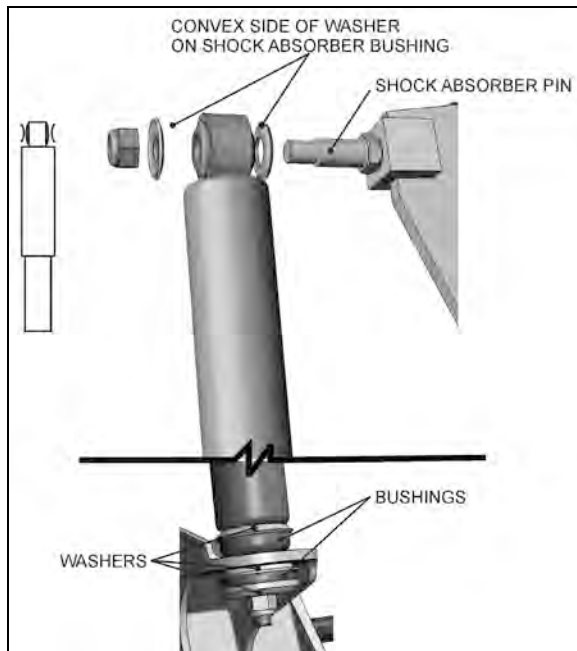

FIGURE 13: TYPICAL SHOCK ABSORBER SETUP 16009
Double-action, telescoping-type shock absorbers ensure a smooth ride and enhance vehicle stability on the road. The tag axle is provided with two shock absorbers while the drive axle is provided with four of them (Figure 13).
- Remove nuts and washers from shock absorbers on upper mounting pin and lower mounting bracket, taking care to identify the inner and outer washers to ease reinstallation. Refer to Figure 13 for details.